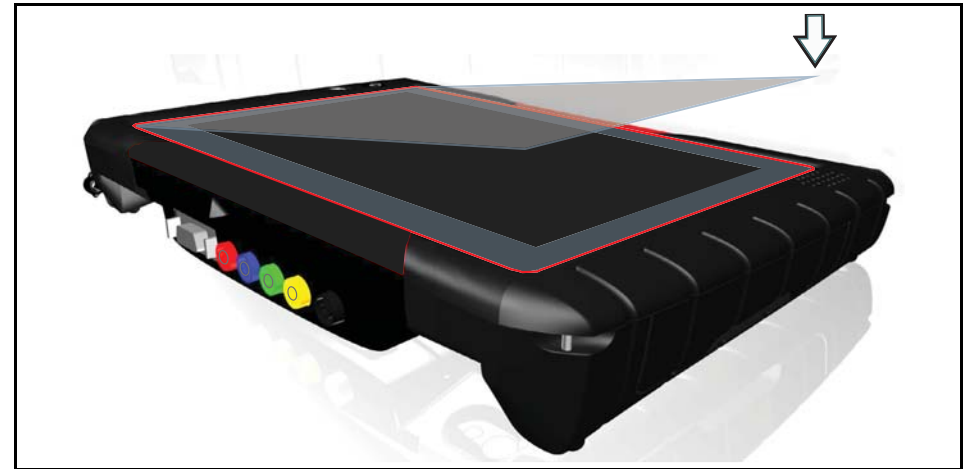

Figure 19-4
3. Carefully align the edge of the protector with the edge of the screen, and slowly allow the screen protector to lie flat on the screen (Figure 19-4).